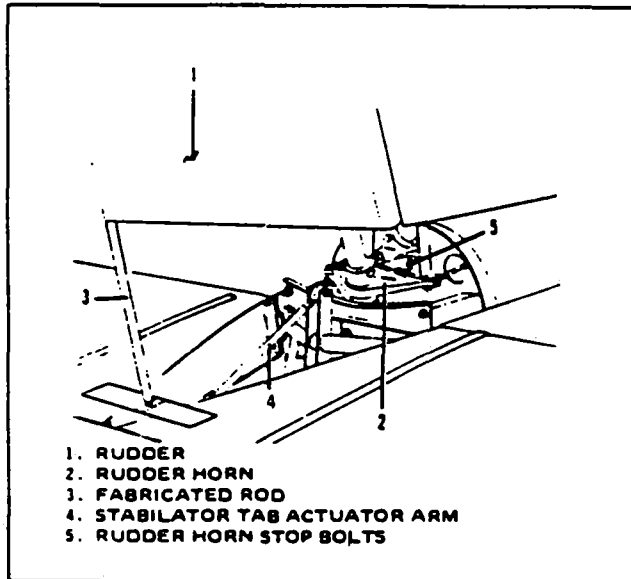

Figure 5-12. Determining Neutral Rudder Position
5. Install a small diameter rod on to the bottom of the rudder at the trailing edge. (Refer to Figure 5-12.)
6. Apply masking tape on 90° to airplane centerline, between stabilator halves immediately beneath rod inserted on rudder. On tape, mark the airplane centerline (stabilator trim control rod) and a line 1/4 inch to right of centerline. (Refer to Figure 5-12.)